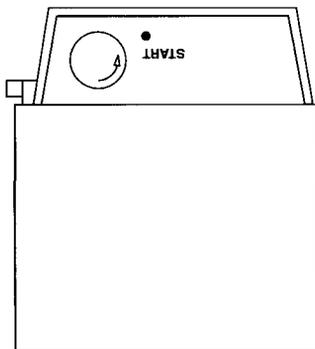

Figure 10. To complete the film loading procedure, press the start button.
Step 8: Press the start button located next to the film advance knob on the 120/220 camera module. See Figure 10. The READY indicator LED on the back of the module will light up. See Figure 11.